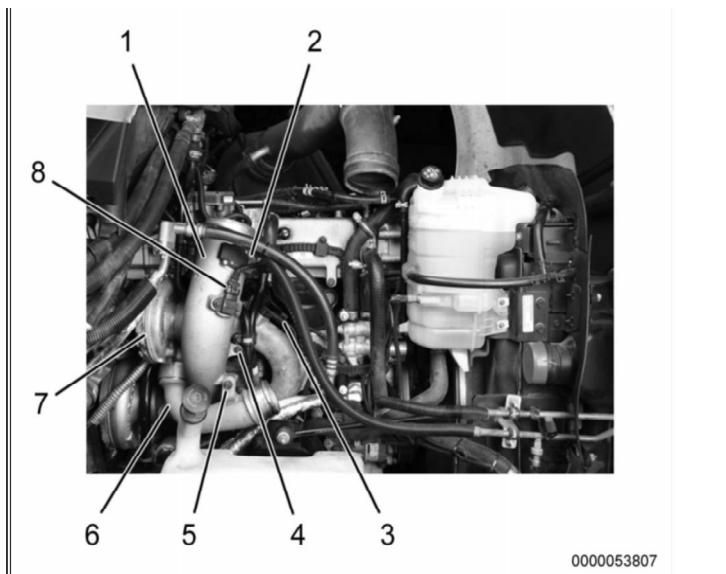

Figure 18: HP and LP Turbocharger Connections
- Item 4: LP turbocharger inlet duct bolt (2)
- Item 5: HP turbocharger outlet duct bolt (2)
7. If equipped, disconnect Mass Air Flow (MAF) sensor connector (**Figure 18**, Item 2)
8. Disconnect Turbocharger 2 Compressor Inlet Pressure (TC2CIP) sensor connector (**Figure 18**, Item 3)
9. Disconnect Air Inlet Temperature (AIT) sensor connector (**Figure 18**, Item 8) and position engine harness aside.
10. Remove two HP turbocharger outlet duct bolts (**Figure 18**, Item 5) and HP turbocharger outlet duct (**Figure 18**, Item 6) from HP turbocharger (**Figure 18**, Item 7). Remove and discard O-ring seal.
11. Remove two LP turbocharger inlet duct bolts (**Figure 18**, Item 4) and LP turbocharger inlet duct (**Figure 18**, Item 1) from LP turbocharger. Remove and discard O-ring Seal